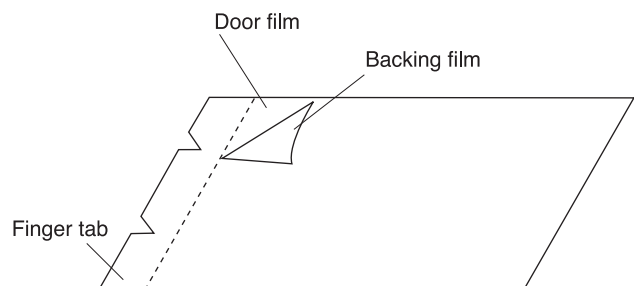

Figure C-6. Inner Sealer Film
3. Put sealer film on door panel. Refer to "Inner Sealer Film" and figure C-6, on how to handle the new film.
4. Catch two (2) pins of door panel on two (2) hole of upper and lower oven hinges.